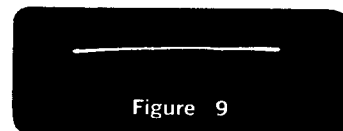

Figure 9
7. Turn the **ALC CONTROL** CW until the output becomes flattened across the entire band. The output voltage can be varied over a range of 20 db below this setting control. Figure 9.